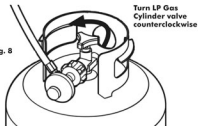

Fig. 7
1. **IMPORTANT:** Make sure Control Knobs are turned "Off." (Fig. 7)
3. Push Burner Control Knob in on Control Panel and turn counterclockwise to the High position. (Figs. 7 and 9)
1. **IMPORTANT:** Make sure Control Knobs are turned "Off." (Fig. 7 - P.14)